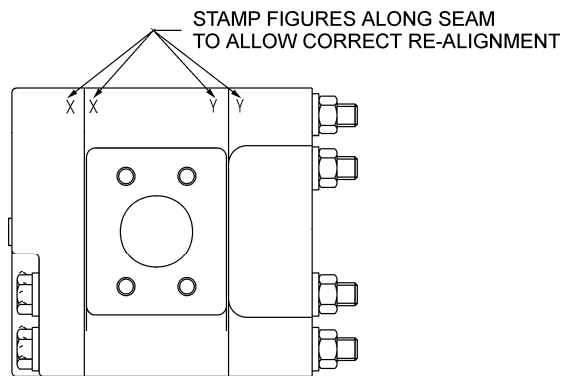

Figure 3
- Scribe a straight diagonal line across the three different sections of the motor to ensure correct alignment of parts during reassembly. Alternatively, stamp the different sections of the motor adjacent to the joint. The markings should be the same on either side of the joint, but different for each section. Refer to Figure 3.